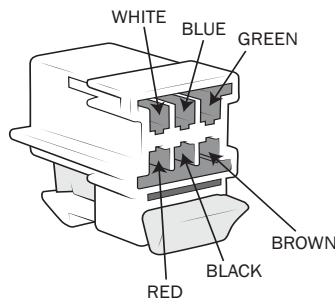

Figure 9
5. Install the 6-pin connector onto the end of Harness A matching wire colors with the corresponding connector on Harness B (fig. 9).